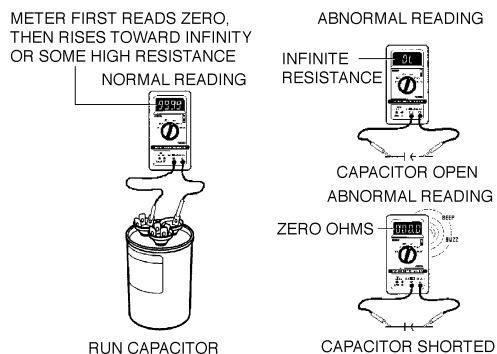

FIGURE 51 — CAPACITOR TEST
4. Perform capacitor test. Set up the volt-ohmmeter to measure resistance by connecting terminals C to FAN and C to HERM on the meter. See Figure 51.